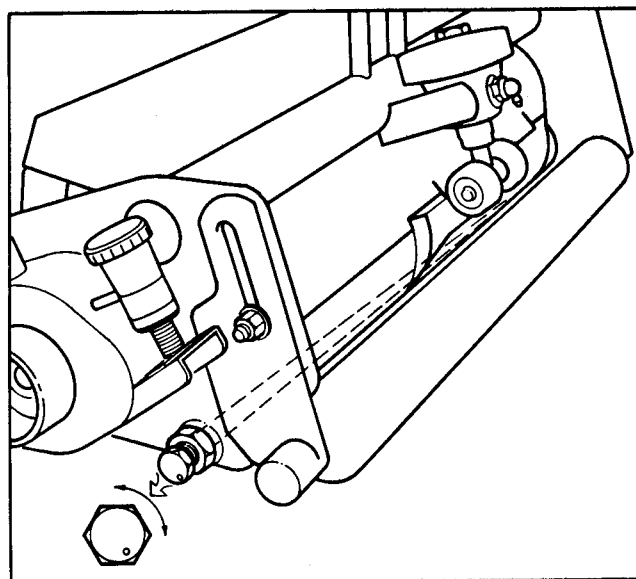

Figure 12
4. Loosen jam nut on left hand bedbar pivot bolt so bolt can be turned. Left hand pivot bolt (eccentric bolt) has offset thread which, when rotated, acts as a cam to raise or lower the bedbar. Identification dot on bolt head denotes offset of bolt. When dot is in up position (Fig. 12) left end of bedbar is raised. As bolt is turned clockwise and dot is lowered, so is left end of bedbar. Identification dot must be positioned within rear (180°) position when adjusting.